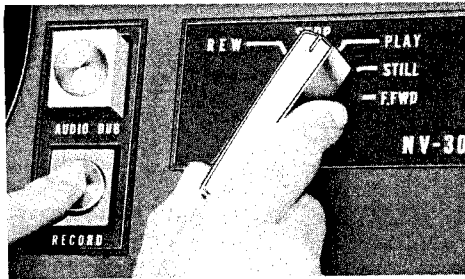
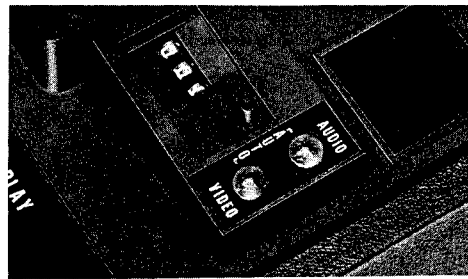

Fig. 11
Fig. 12
1. Slide both Auto/Manual Video Level Selector (25) and Auto/Manual Audio Level Selector (26) to the AUTO side.
2. Turn the Function Lever (15) to the PLAY position while holding the Record Button (13) down. (Fig. 11) The Automatic Audio Recording Indicator Lamp (5) and the Automatic Video Recording Indicator Lamp (6) will light up (Fig. 12), which means both audio and video recording levels are adjusted automatically. At the same time, the tape starts running, and audio/video recording begins.
5. Hold the Record Button (13) down, and turn the Function Lever (15) to the PLAY position (Fig. 11). Then the tape starts running, and audio/video recording begins.